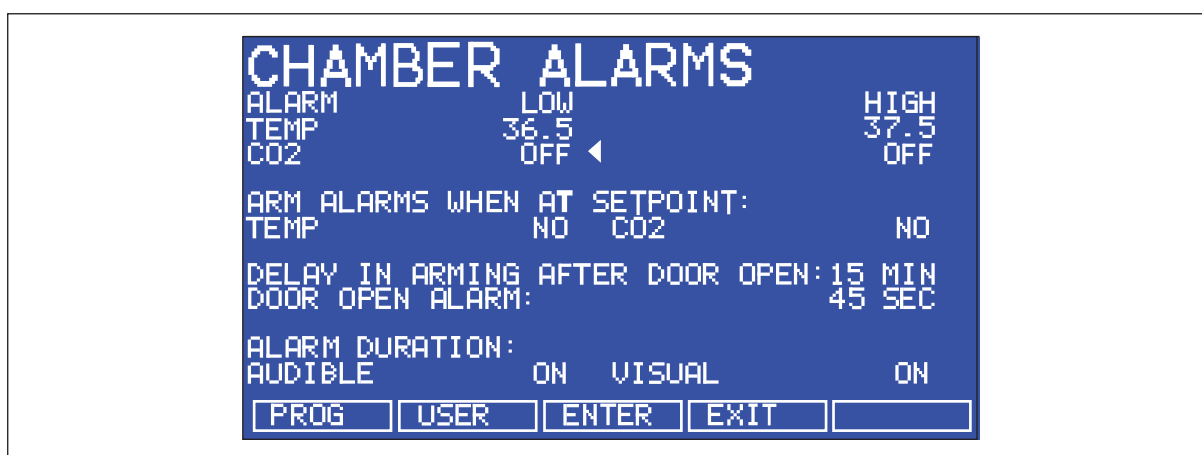

Fig. 6-8: *CHAMBER ALARMS* screen
The *CHAMBER ALARMS* programming screen (see Fig. 6-8 on p. 39) allows the various alarm options to be selected and modified. Press the ▲ or ▼ direction key to move around the options and the ◀ or ▶ direction key to adjust values. The temperature and CO₂ High and Low Alarm setpoints automatically adjust to within ± 0.5 of the temperature and CO₂ setpoints. The alarm setpoints can also be manually adjusted.
2. Select *NO* for both *TEMP* and *CO₂* (see Fig. 6-8 on p. 39).
3. Choose the option *DELAY IN ARMING AFTER DOOR OPEN* and select the desired delay (15 minutes in the sample screen (Fig. 6-8 on p. 39)) to allow for temperature and CO₂ recovery after the door has been opened.
A *DOOR OPEN ALARM*: can be adjusted, choosing from seven preset durations (45 seconds in (Fig. 6-8 on p. 39)) to warn of an improperly closed door.